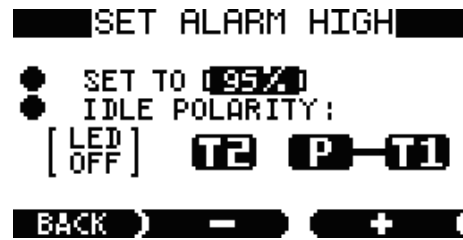

Figure 10: High Alarm Set Value screen
The first menu option allows you to set the value of the high alarm. The set point is given in percent of the span of the unit. To set the value, highlight the numerical value box and press EDIT. Figure 10 below shows the display with the value box selected for setting.
- 2vi) The central and right-hand + and – buttons now enable the limit to be changed in 5%, v1.16 and earlier firmware, or 1% steps v1.17 and later firmware.(This display screen is shown in Figure 10).
If it is set to LED ON, the High Alarm LED will be on when the indicated concentration is less than the set point and terminal T2 will be connected to the common terminal P. The non-alarm state of the LED and Relay is indicated by the bar connecting either T1 or T2 to P (as shown in Figure 10).
- 4vi) The central and right-hand + and – buttons now enable the limit to be changed in 5% steps, v1.16 and earlier firmware, or 1% steps v1.17 and later firmware (This display screen is shown in Figure 10).